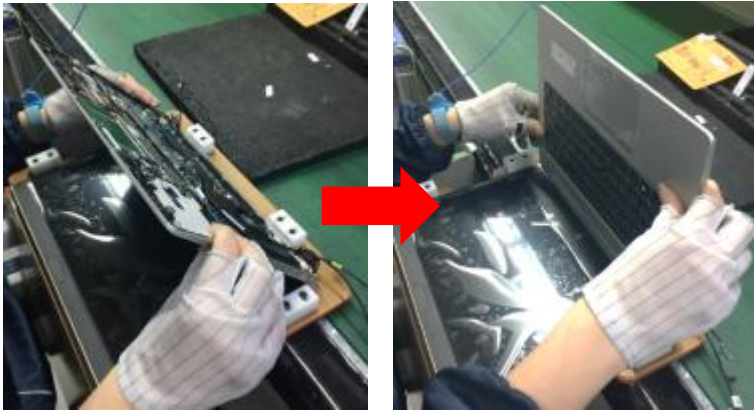

Fig.1
1. Open base unit to 90 degree(Fig.1).